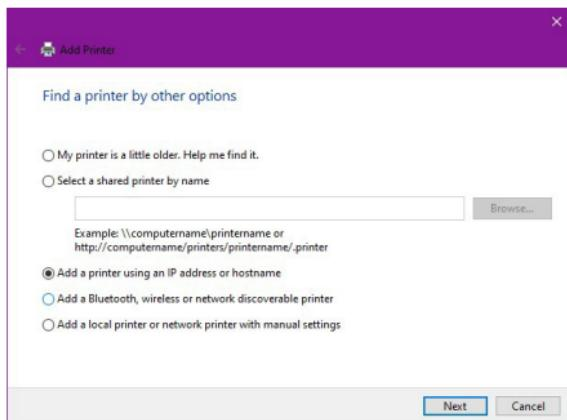

Figure 22
5. On the **Add Printer** screen, select **Add a printer using a TCP/IP address or hostname**, then click **Next**. (Figure 22)